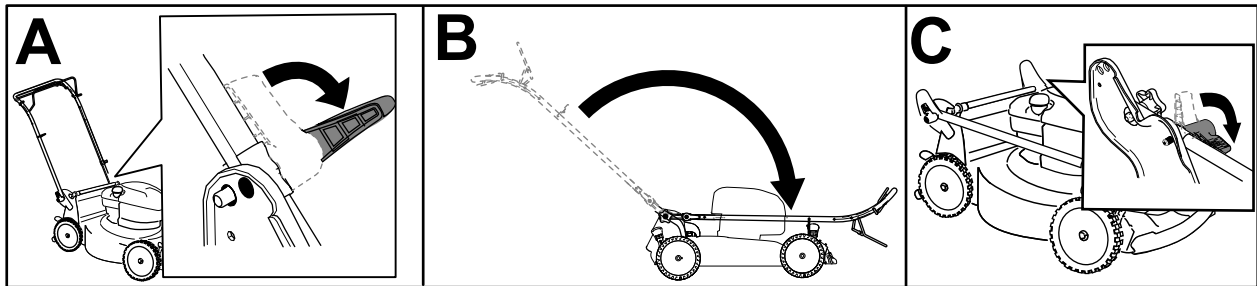

Figure 16
2. Disengage the handle locks until you can move the upper handle freely (A of Figure 16).
3. Fold the handle forward and engage the handle locks (B and C of Figure 16).